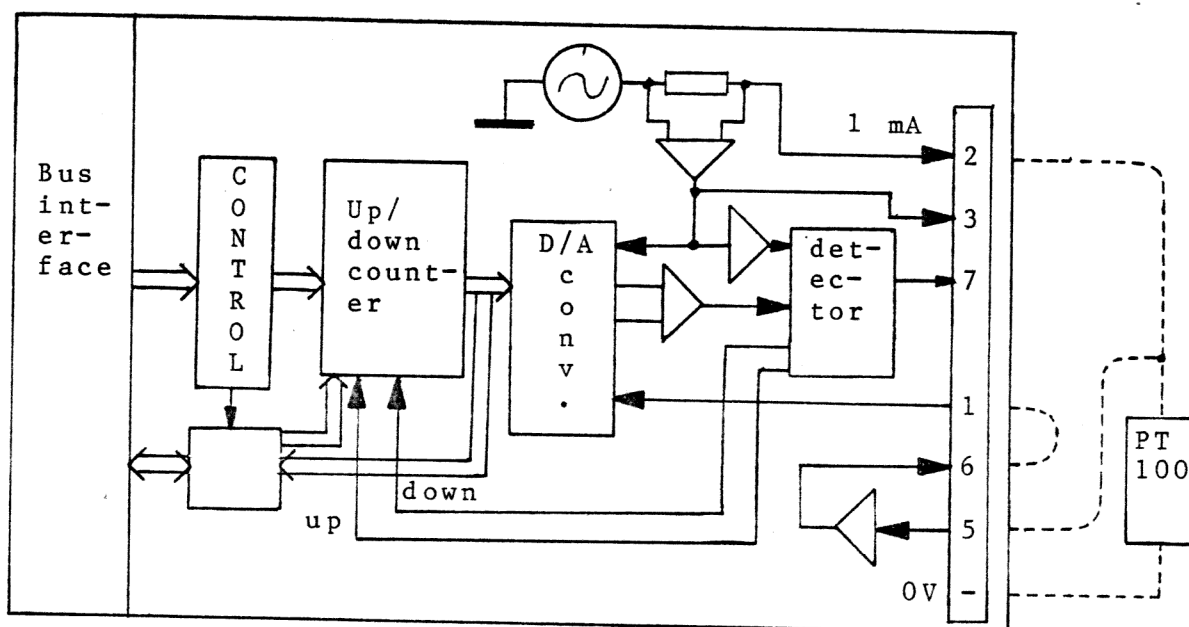

Fig.1. PT100 Block Diagram
- The converter card feeds 1 mA alternating current (200Hz) to the PT100 transducer. The voltage over the resistor is feed to a multiplying D/A - converter. The difference between this and an internal reference voltage is detected synchronously and controls an up/down counter until the PT100 signal is balanced. (See fig 1) When balanced, the signal into the detector is zero which minimizes the effect of variations in the detector.
- Omvandlarkortet levererar ca 1 mA växelström (200 Hz) till PT100 givaren. Spänningen över givaren går in på en multiplicerande A/D omvandlare. Skillnaden mellan denna och en intern referensspänning detekteras synkront och styr en upp/ner räknare tills PT100 signalen balanserats bort. (Se fig 1) Vid balans är signalen in på detektorn noll, varvid inverkan av detektorvariationer minimeras.
2. When connecting one PT100 transducer directly, the drive current is connected to pin 2 with return to 0 volts. Connect the transducer to the amplifier with the active signal on pin 5 and the return on 0 volt. The amplifier output (pin 6) is connected with a jumper to the D/A converter input at pin 1. (See figure 1.)